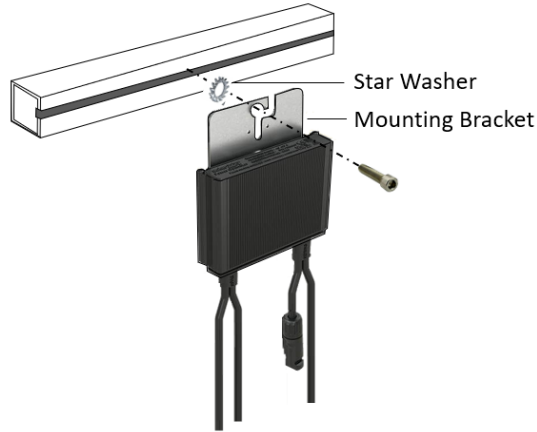

Figure 9: Power Optimizer installation and grounding using a star washer
1. Determine the Power Optimizer mounting location and use the Power Optimizer mounting brackets to attach the Power Optimizer to the support structure (See *Figure 9*). It is recommended to mount the Power Optimizer in a location protected from direct sunlight.